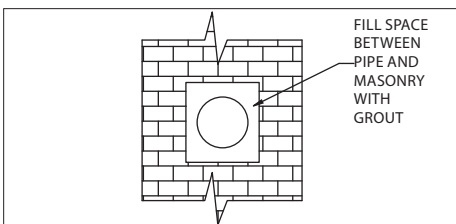

Figure 17
7. Once the horizontal pipe section is in place, the space between the pipe and the masonry may be filled with high temperature grout, as shown in **Figure 17**, if desired.